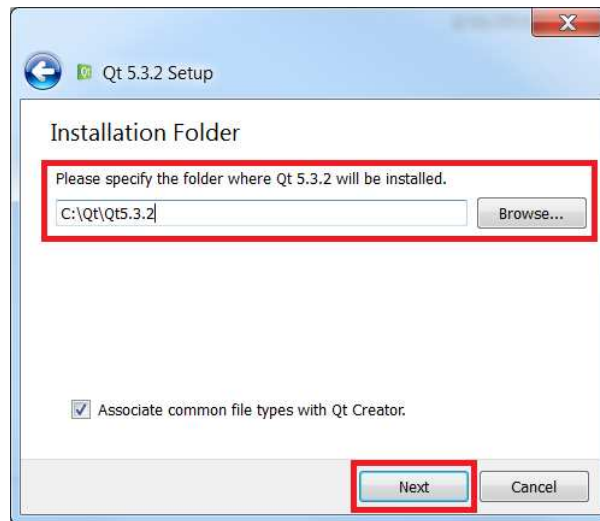

Figure 4. Qt Install Folder
3. Select an installation path as shown in Figure 4 and click “Next.”